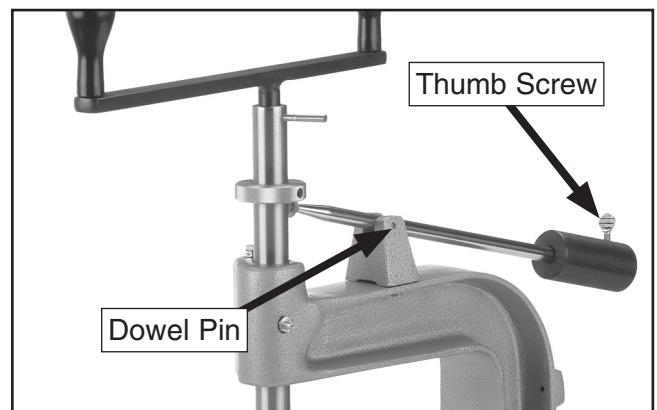

Figure 7. Lever and counterbalance installed.
6. Attach the lever to the lever bracket with the dowel pin, then slide the counterbalance onto the end of the lever and secure it with the thumbscrew (see **Figure 7**). *The counterbalance helps the spindle return to the up position out of the way of the workpiece.*